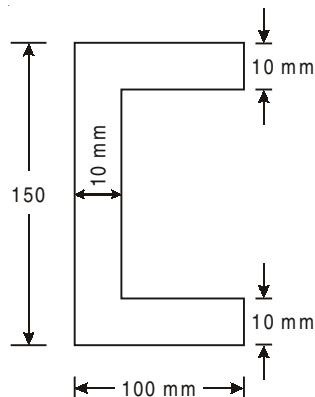

Fig. 12.30
13. Locate the shear centre with sketch for the section as shown in Fig. 12.30